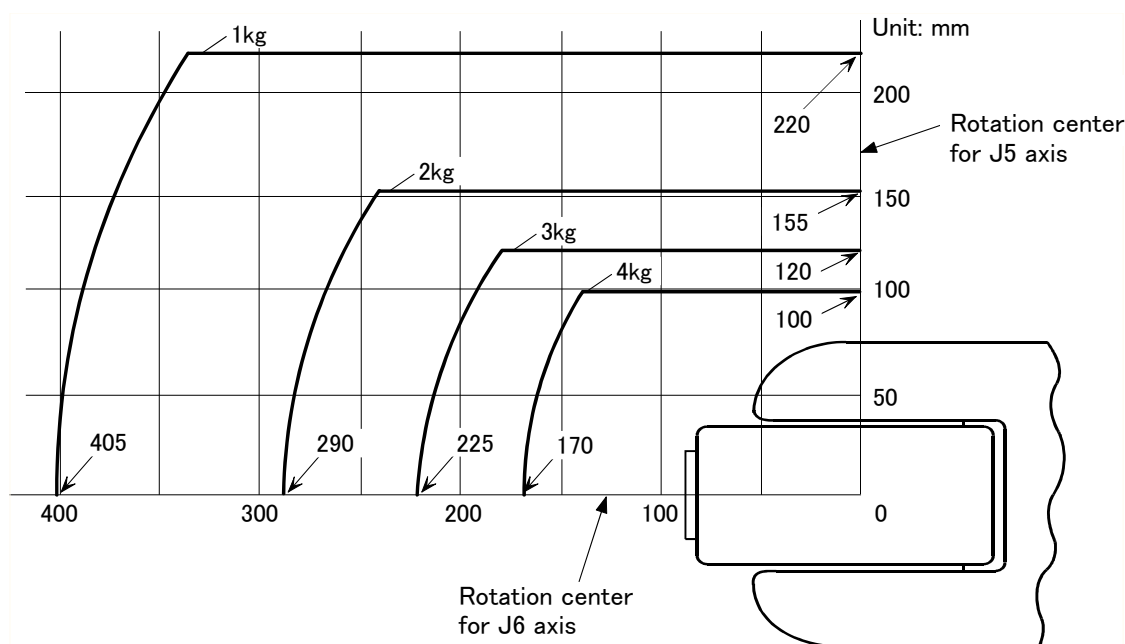
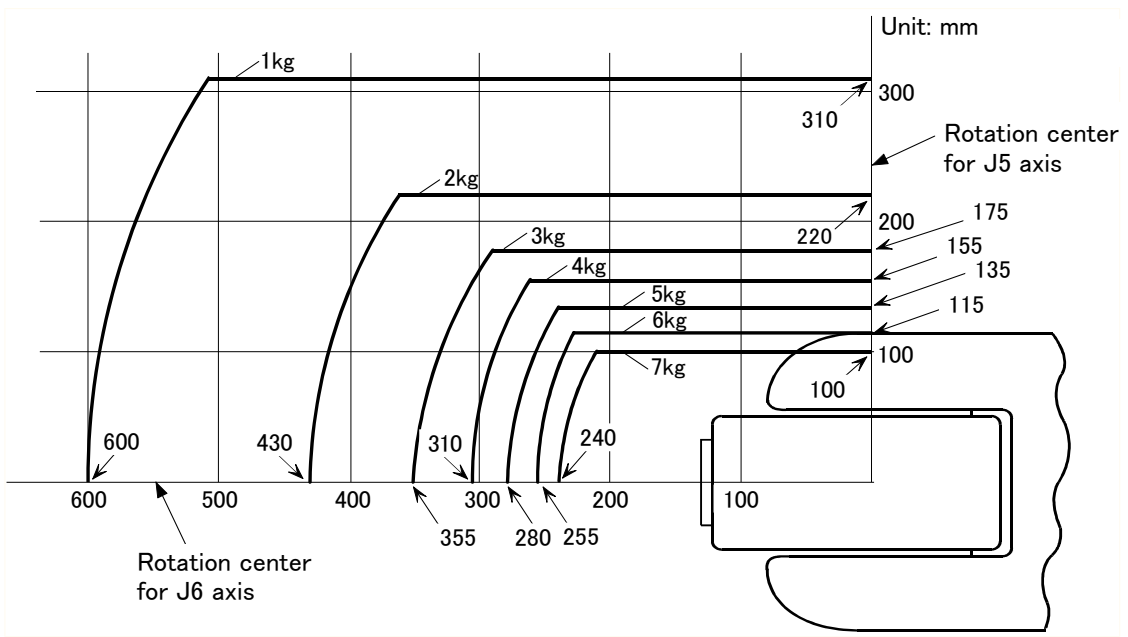
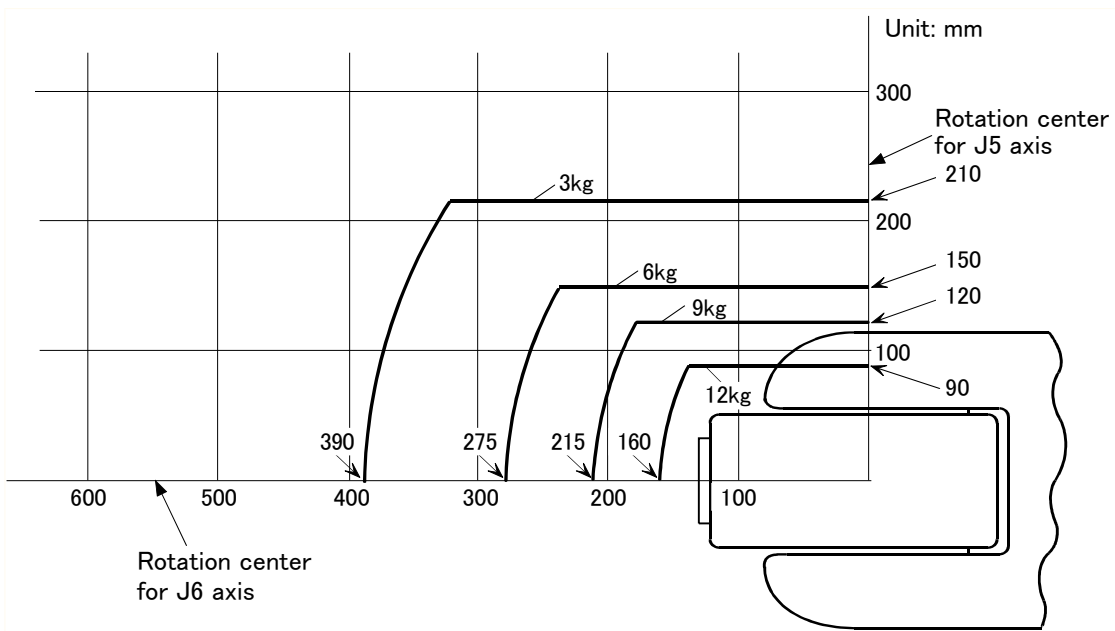
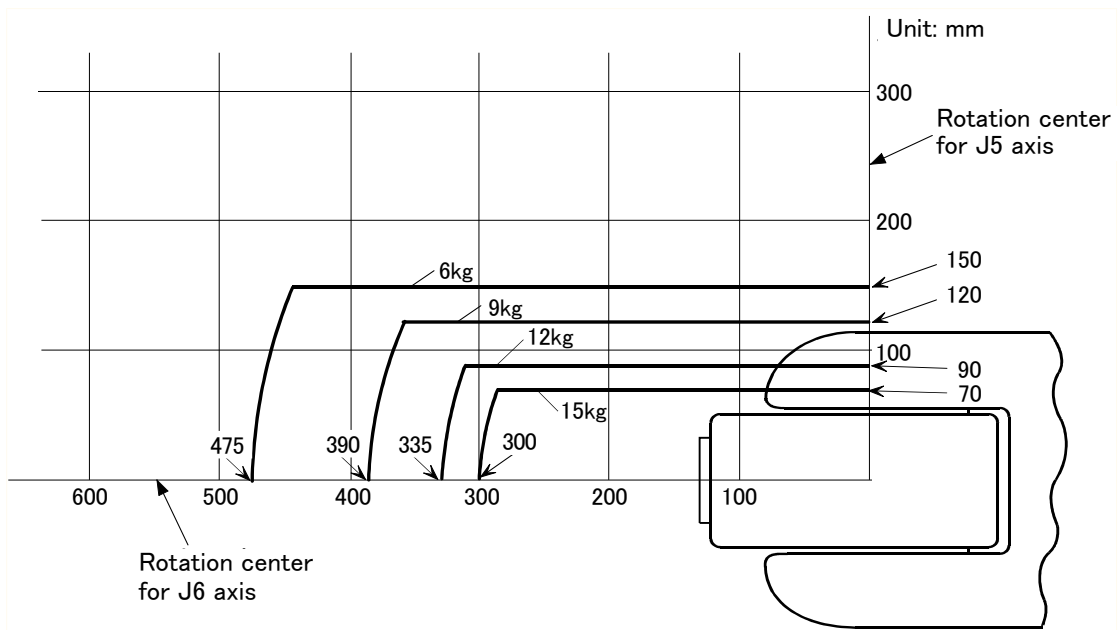

Fig.2-1 : Position of center of gravity for loads (for loads with comparatively small volume): RV-4F/4FL
Fig.2-2 : Position of center of gravity for loads (for loads with comparatively small volume): RV-7F/7FL
Fig.2-3 : Position of center of gravity for loads (for loads with comparatively small volume): RV-13F/13FL
Fig.2-4 : Position of center of gravity for loads (for loads with comparatively small volume): RV-20F
- (1) The tooling should have the value less or equal than the smaller of the tolerable inertia and the tolerable moment found in Page 8, "2.1.1 Basic specifications".
- (2) Fig. 2-1, Fig. 2-2, Fig. 2-3 and Fig. 2-4 shows the distribution dimensions for the center of gravity in the case where the volume of the load is relatively small. Use this figure as a reference when designing the tooling.
- (3) Even if the load is force, not the mass, design the tooling so that moment does not exceed the allowable moment. Refer to Page 8, "2.1 Standard specifications" for details of allowable moment value.